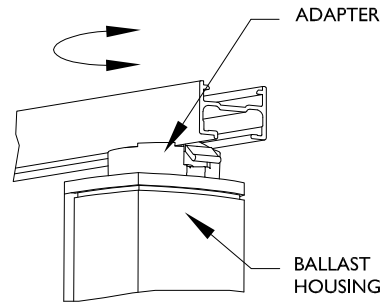

FIG. 2
2. Rotate fixture ADAPTER 90° with the help of the BALLAST HOUSING until LOCKING LEVER snaps and locks in place (FIG.2)
3. To remove, depress LOCKING LEVER, then rotate ADAPTER 90° counterclockwise with the help of the BALLAST HOUSING (FIG.2)